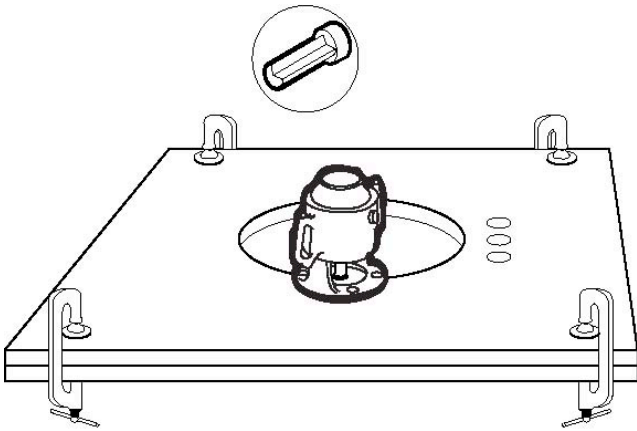

Figure C-5
- Use a 2-hp to 3-hp router with a 1" (25 mm) template guide and a $\frac{3}{8}$ " (10 mm) carbide-tipped, single-flute bit (Figure C-5).